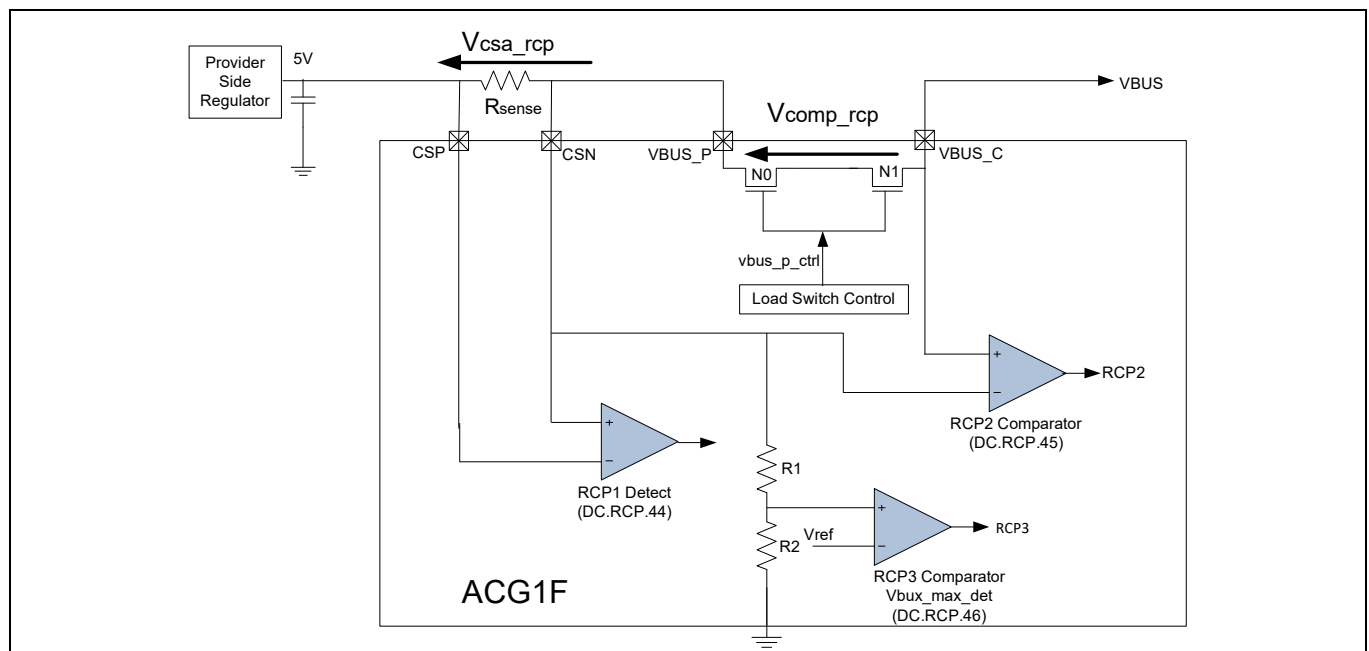

Figure 1-1 RCP Mechanism
ACG1F controller supports RCP in 40-QFN package. ACG1F integrates the RCP circuitry that has the capability of sensing reverse current that lasts for more than 10 μ s and protects the system by shutting down the Gate automatically upon detection of such events. ACG1F provides RCP circuitry that can detect reverse current flow from connector VBUS_C to provider VBUS_P. The RCP event is recognized whenever VBUS_C > VBUS_P while provider FET is ON, causing current to flow from connector VBUS to provider VBUS. After recognizing the RCP event, the provider FET is shut down thus isolating the provider and connector VBUS. ACG1F has three distinct mechanisms to detect the reverse current as shown in **Figure 1-1**.
- Mechanism 1: A comparator senses the voltage drop across external Rsense through pins CSP and CSN. This comparator signals an RCP event whenever $CSN > CSP$ by the V_{csa_rcp} voltage given in Table 6-23. The output of this comparator RCP1 is shown in Figure 1-1.
- Mechanism 2: A comparator senses the voltage drop across provider FET through CSN and VBUS pin of ACG1F. This comparator signals an RCP event whenever $VBUS > CSN$ by the V_{comp_rcp} voltage given in Table 6-23. The output of this comparator RCP2 is shown in Figure 1-1.
- Mechanism 3: A comparator senses the 33.33% voltage of the CSN pin and compares it against $V_{ref} = 1.79\text{ V}$ for 5-V provider VBUS application. This comparator signals an RCP event whenever CSN voltage goes above $V_{bus_max_det}$ voltage given in Table 6-23 for a 5-V application. The output of this comparator RCP3 is shown in Figure 1-1. Note that V_{ref} is programmable and the voltage divider has an option to use 25% or 33.33% value which is configurable only through firmware. To change the V_{ref} value to 25%, contact local Cypress Sales Representative.